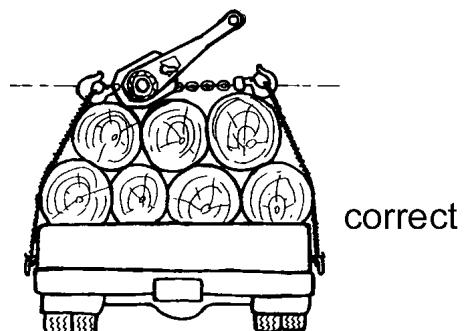

Fig. 8
- When using a wire rope sling, the puller must be applied along a straight line parallel to the surface it is resting on, (Fig. 8).